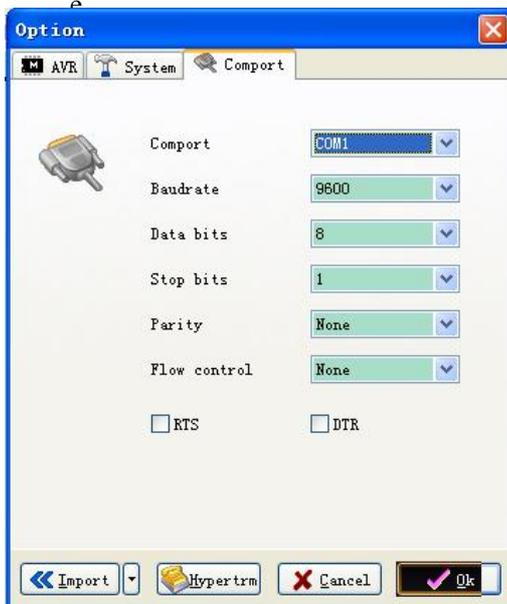

Fig. 6
- 6) Change settings on tab “Com Port” to those shown in Fig. 6. Com port number should